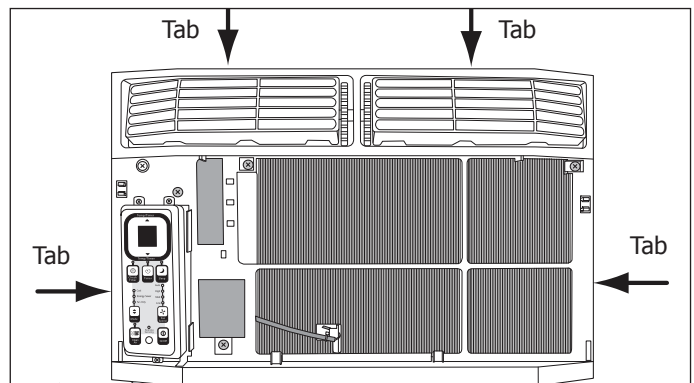

Figure 4-108.
7. Remove the front panel by pulling the outer edges away from the unit frame until the tabs are free of the slots in the unit frame. (See Figure 4-108 Arrows show the tab locations) Release the two side tabs first then lift the front panel upwards until the front panel is free.